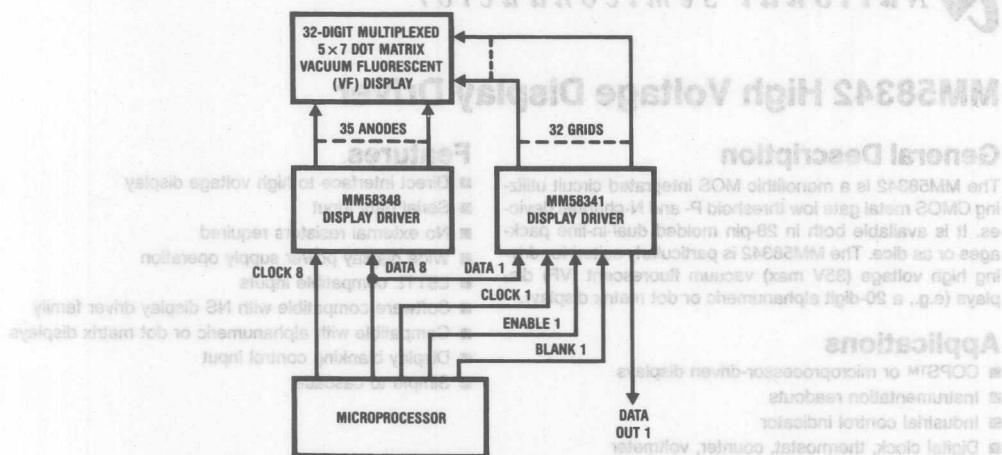

FIGURE 6. Microprocessor-Controlled Word Processor
Figure 6 shows a schematic diagram of a microprocessor-based system where the MM58341 is used to provide the grid drive for a 32-digit 5 x 7 dot matrix vacuum fluorescent (VF) display. The anode drive in this example is provided by another member of the high voltage display driver family, namely the MM58348, which does not require an externally generated load signal.